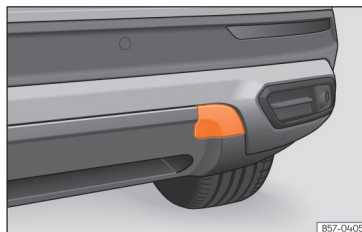

Fig. 199 Rear bumper on right: remove the lid.
The housing of the screw towing eye is on the right side of the rear bumper behind a lid >>> **Fig. 199**.
- Press the upper side of the lid >>> **Fig. 199** to unclip it.